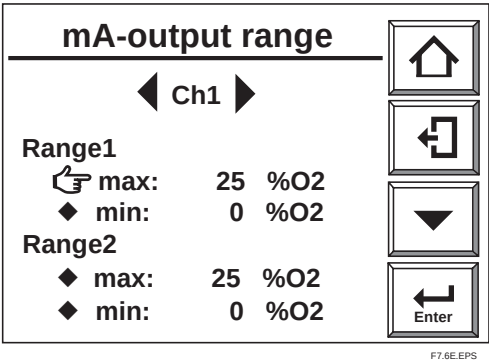

Fig. 7.6 Current-output range
- 2) From the [Commissioning] display select [mA-output setup], then [Set Range]. (See Fig. 7.6).